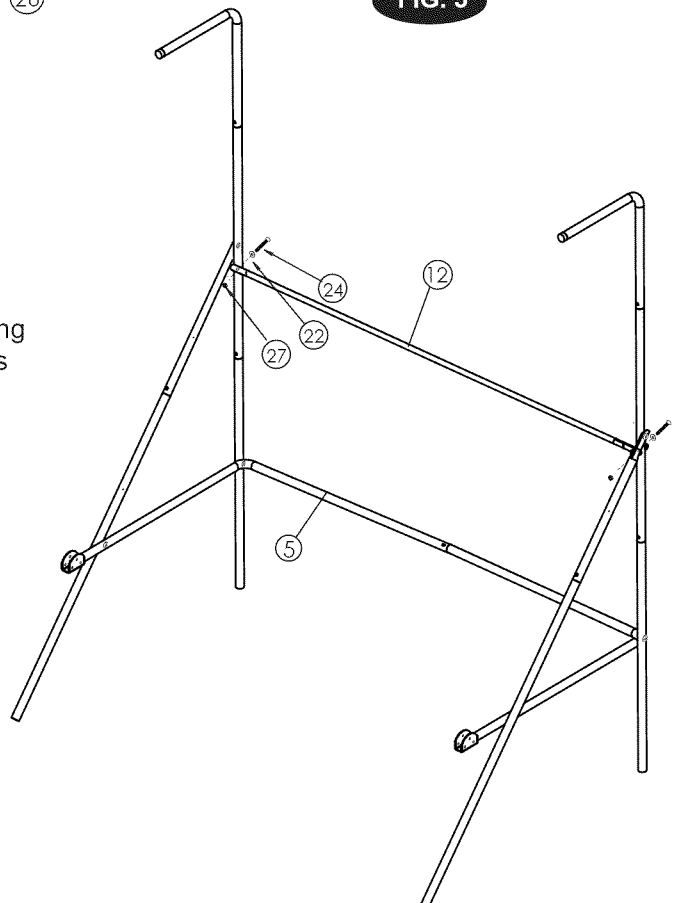

FIG. 6 & 7
9. Attached Middle Ramp Tube(#9) to Horizontal Frame Brace Tube(#5) using Bolts(#32), Washers(#22) and Nuts(#27) as shown in FIG 6.